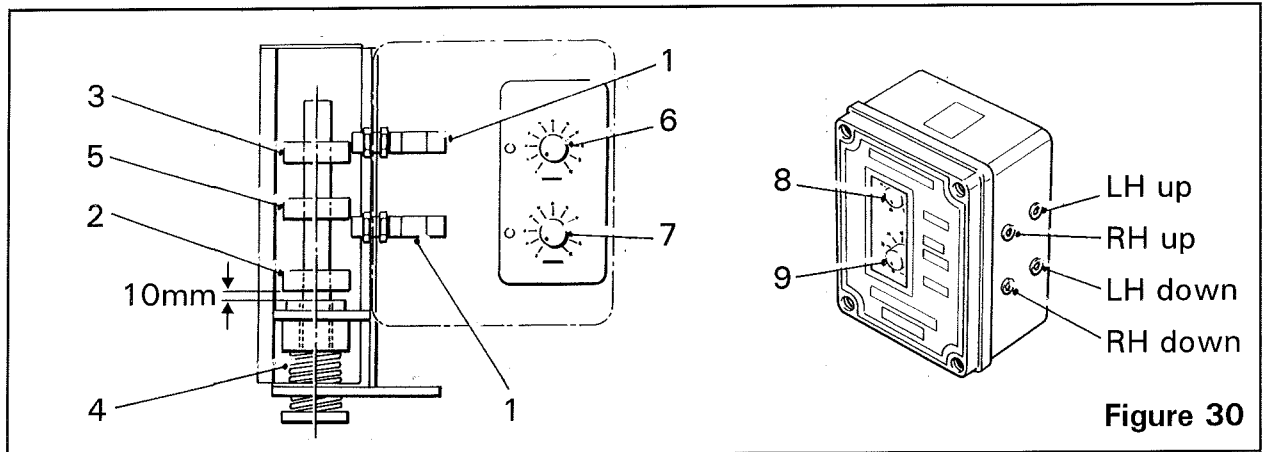

Figure 30
The depth control unit allows each roller to sense the height of the ridge it is running on and in doing so, maintains the constant depth of the share below the top of the ridge. The depth control unit senses the position of the depth adjusting turnbuckle (item 3, figure 7). The proximity switches (item 1, figure 30) are factory-set but may need to be adjusted after a period of service.
3. With the turnbuckle (item 3, figure 7) at the top of the slot in the reaction bracket, the spring stop (item 2, figure 30) can be set. Release the grub screws and move the spring stop disc until a gap of 10mm is obtained between the stop and the bush housing (see figure 30). Retighten the grub screws.
DO NOT START THE TRACTOR. Set the digger share switch to 'Auto' and the left digger share switch to 'Lower', this puts power into the depth control circuit. Release the grub screws on the top stop disc (item 3, figure 30) and move the disc until the light band on the upper proximity switch turns on. Retighten the grub screws. If needed, the proximity switch can be moved closer to the edge of the disc by releasing the proximity switch locknuts and setting the switch to a distance of approximately 1mm.
5. Lower the turnbuckle from the top of the slot until the spring (item 4, figure 30) holds the spring stop (item 2, figure 30) onto the bush housing.
6. The lower stop disc (item 5, figure 30) is then adjusted until the bottom edge of the disc turns on the light band on the lower proximity switch. Refit the guard.
7. Finally, set the timers to give the required delay. On early machines the LH and RH depth control boxes each contain a 'raise' timer (*item 6, figure 30*) and a 'lower' timer (*item 7, figure 30*). On later machines the single depth control box positioned above the RH roller contains two 'raise' timers only. The top timer (*item 8, figure 30*) is activated by the RH roller and the bottom timer (*item 9, figure 30*) is activated by the LH roller. Initially, the 'raise' timers should be set to give a 5 second delay. During work, the 'raise' timers can be adjusted so that the digger does not lift out of work when sensing sudden variations, but only rises to give a constant depth. The 'lower' timers (*item 7, figure 30*), fitted to early machines only, should normally be set at minimum.